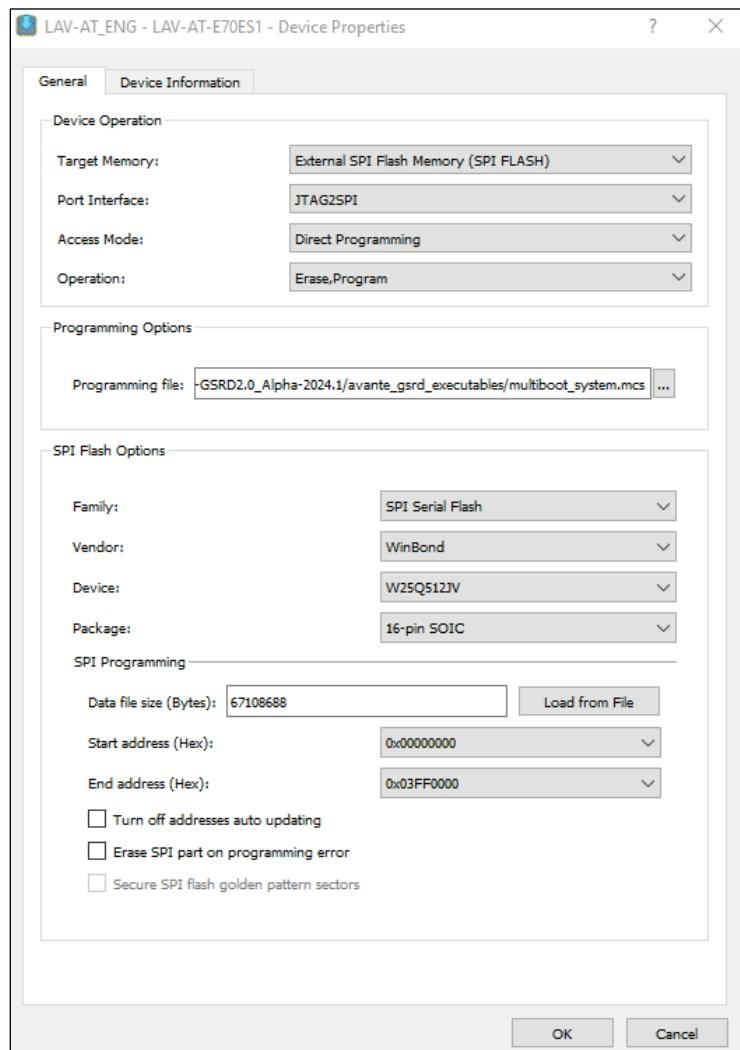

Figure 7.30.Device Properties window to setup MCS programming file
3. To program the **multiboot_system.mcs** file, locate the file in the executables folder that you downloaded and add the file in the Programming file area. Start Address and End Address is allocated automatically. Confirm the settings as shown in Figure 7.30.